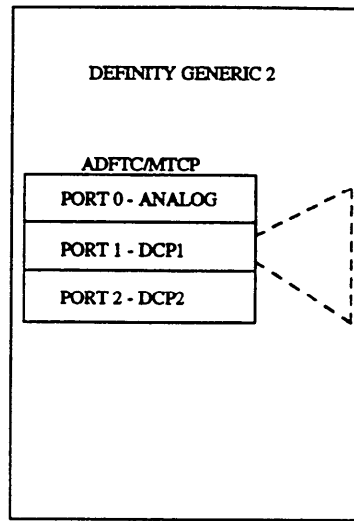

Figure 5-17. Test 1- One Port ADFTC or MTCP Self Test
- A one port test (test type 1) where the switch internally connects port 1 through the switch and back to port 1 on the ADFTC or MTCP, and does a detection test (see Figure 5-17, *Test 1- One Port ADFTC or MTCP Self Test*).
- A two port normal test (test type 2) or a two port reverse test (test type 3), where the switch internally connects port 1 through the switch to port 2 (or from port 2 to port 1 for the reverse test) on the ADFTC or MTCP and does a detection test (see Figure 5-17, *Test 1- Two Port ADFTC or MTCP Self Tests*).